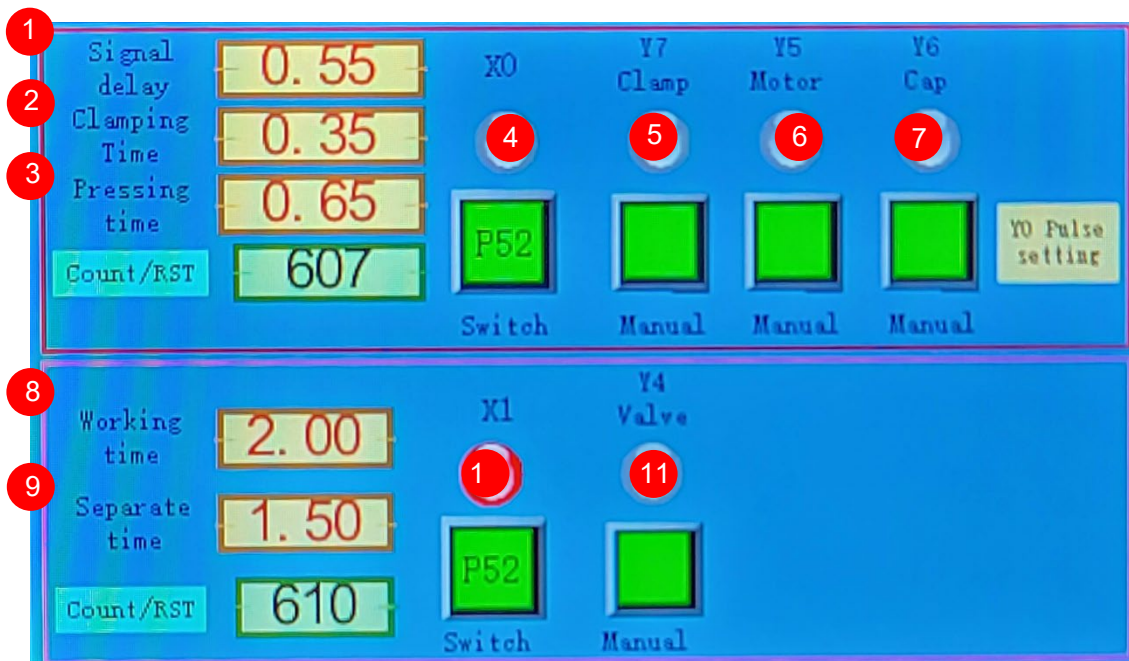

Figure 3.
3. Close the clamp by using Button Y7 (#5 Fig.3). Keep in mind that while the clamp is set to its widest setting, it will not engage.